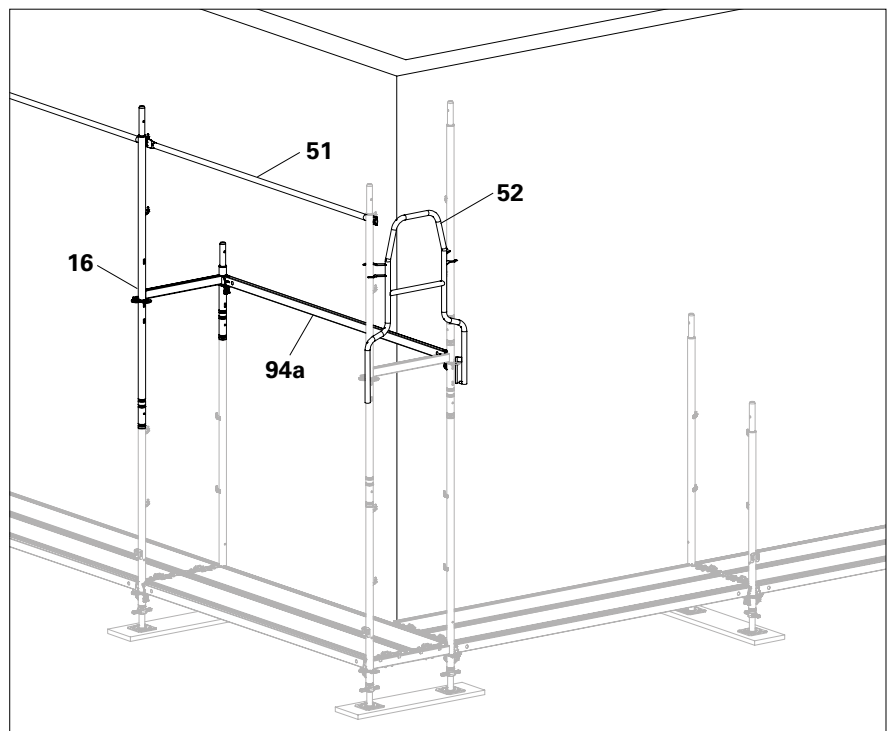

Fig. B6.02
7. Insert the Easy Frame EVF (16) with Guardrail Post EPG (51) into the next frame column.
8. Fit End Guardrail in Advance UPA 67 (52).
9. Fit Horizontal Ledger UH-2 (94a) onto the inner side of the continuous scaffold bay. Secure the wedges. (Fig. B6.02)